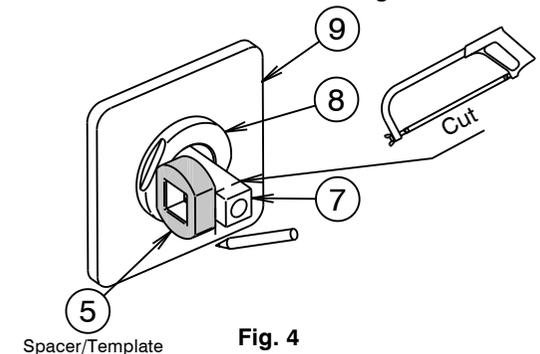

Fig. 4
- \* **This mixer accommodates inwall depth from 65 - 75mm. For installations with less than 75mm, the handle insert (7) must be cut by using spacer (5) as a template. (Step 3 & Fig.4.)**
- 1) Fit mixer body (12) onto a suitable mounting plate or noggin in the wall and secure using screws (not supplied) through the holes in its base. When facing the mixer, the connections should be as follows: Hot water inlet connection 'H' to the left. Cold water inlet connection 'C' to the right. Mixed water outlet connection, vertically upwards. Check all connections for leaks and mixer for correct operation.
- 2) Carefully pass the sleeve (8) through the cover plate (9) & 'O' Ring (9b) then screw the sleeve (8) into the thread of nut (10) on mixer body (12). Align the cover plate (9) with the **dorf** marking at the bottom before tightening the sleeve (8) to fully compress the foam seal (9a) against the wall/tile face, taking care not to damage the decorative finish.
- 3) Using the handle spacer (5) as a template, place the flat side of the spacer against the front surface of the sleeve (8) & scribe a line around the plastic insert (7) as shown (Fig.4). Carefully cut the plastic insert (7) along the marked line and remove any burrs, then slide the handle spacer (5) onto the plastic insert (7) until the spacer rests against the sleeve (8).